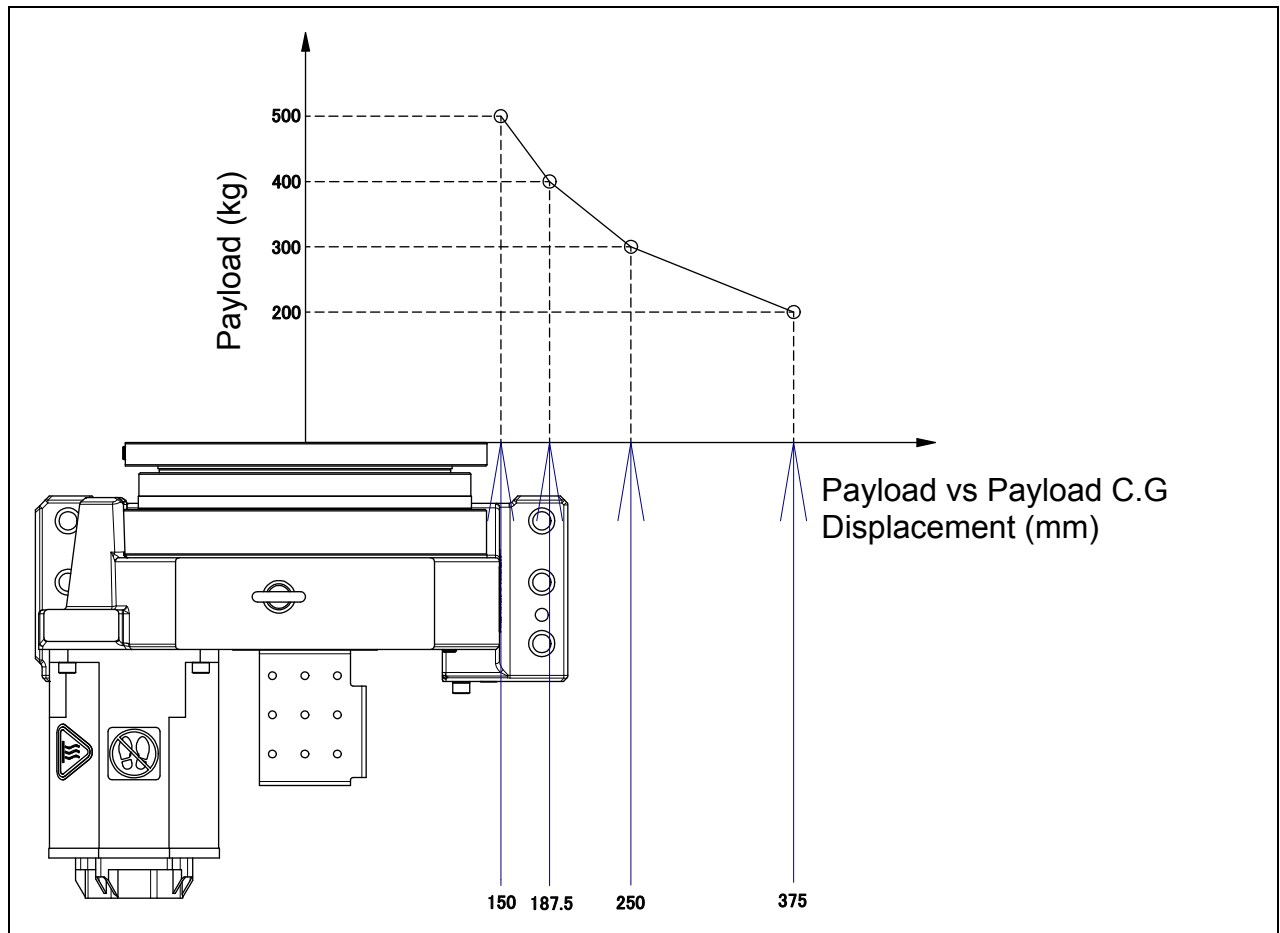

Fig. 3.4 (a) Wrist load diagram
- Fig. 3.4 (a) is a diagrams showing the allowable load that can be applied to the wrist section.